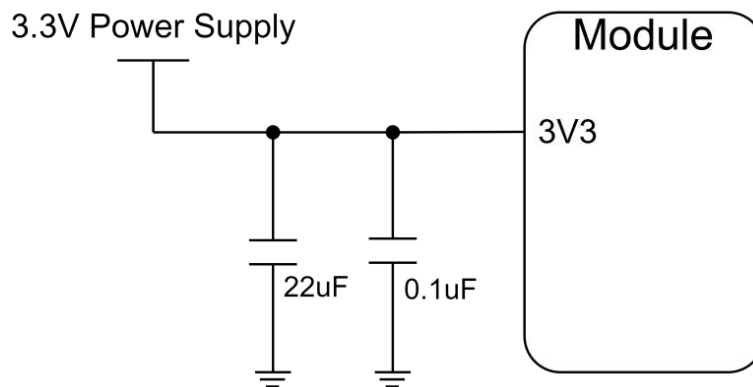

Figure 3.1 Module Power Supply Reference Circuit
- When the module is operating in TX mode, the instantaneous current increases, so it is required that the power supply has a supply capacity of over 500mA, and a 22 μ F capacitor and a 0.1 μ F capacitor should be placed near the pins on the module power supply line, as shown in Figure 3.1.